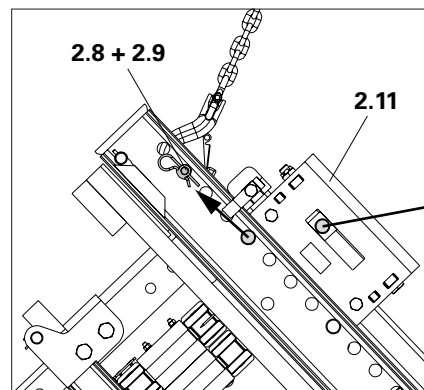

Fig. B1.18a
1. Remove 2x fitting pins $\text{Ø } 26$ (2.8) and cotter pins 5/1 (2.9) from the marked positions on the Adjusting Unit SCS (2.11). (Fig. B1.18a)
2. Insert fitting pins $\text{Ø } 26$ (2.8) into the holes on the crossbeam and secure with cotter pins 5/1 (2.9). (Fig. B1.18a + B1.18b)